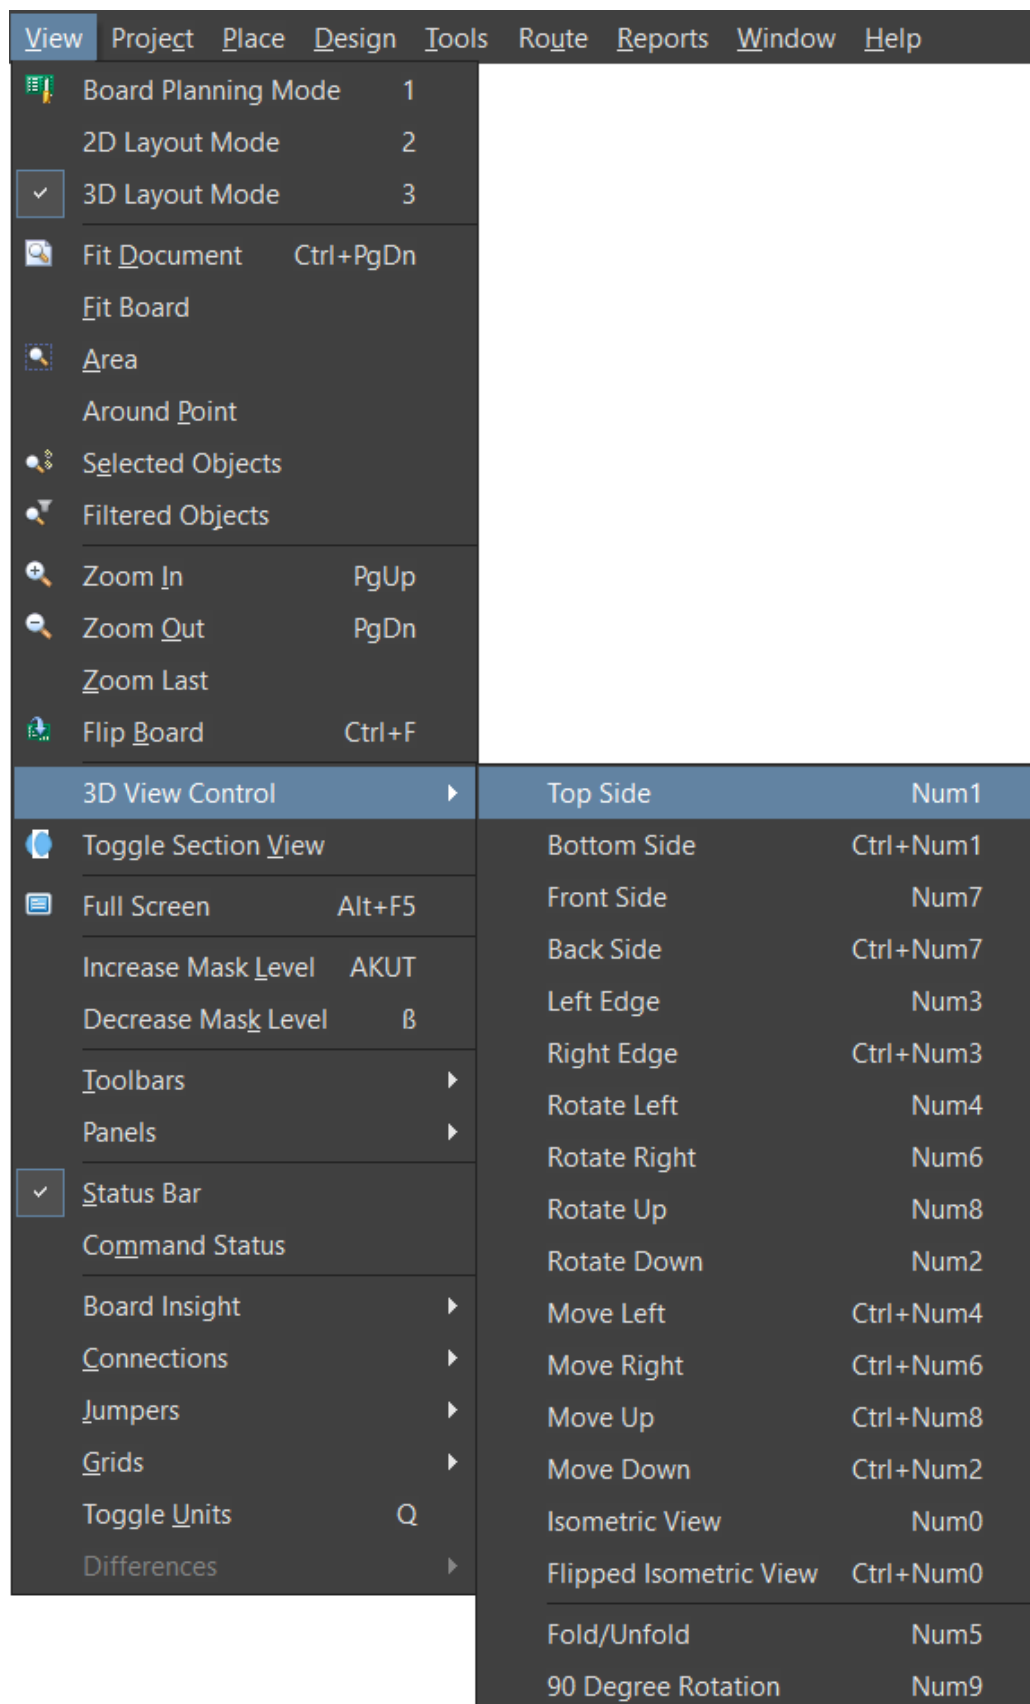

Figure 6. PCB 3D View Control
22. Instead of using the orb you can control the 3D View with shortcut key / menu commands from the **View Menu**, see Figure 6.